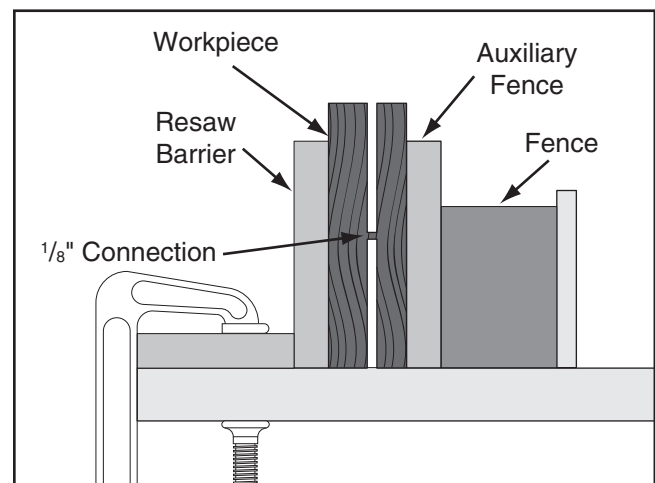

Figure 89. Ideal completed resaw cut.
- Raise the blade approximately an inch, or close to half the height of the workpiece (**Figure 89**), whichever is less.
- Repeat **Steps 7–9** until the blade is close to half of the height of the board to be resawn. The ideal completed resaw cut will leave an $\frac{1}{8}$ " connection when the resawing is complete as shown in **Figure 89**. Leaving an $\frac{1}{8}$ " connection will reduce the risk of kickback.